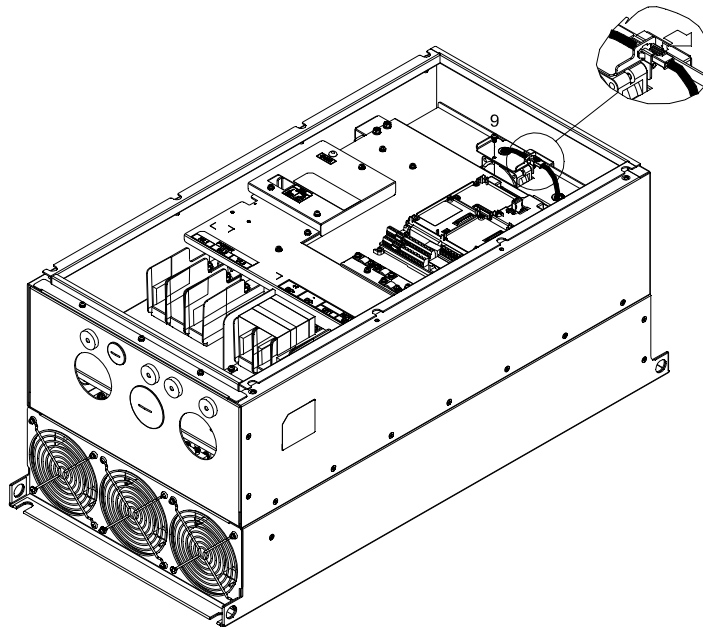

Figure 3
3. Loosen the screw 9 then remove the fan kit. (Refer to Figure 3)